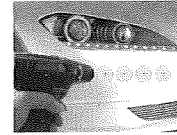

Figure 2
- 3) Drill the holes in the bumper (Figure 2).